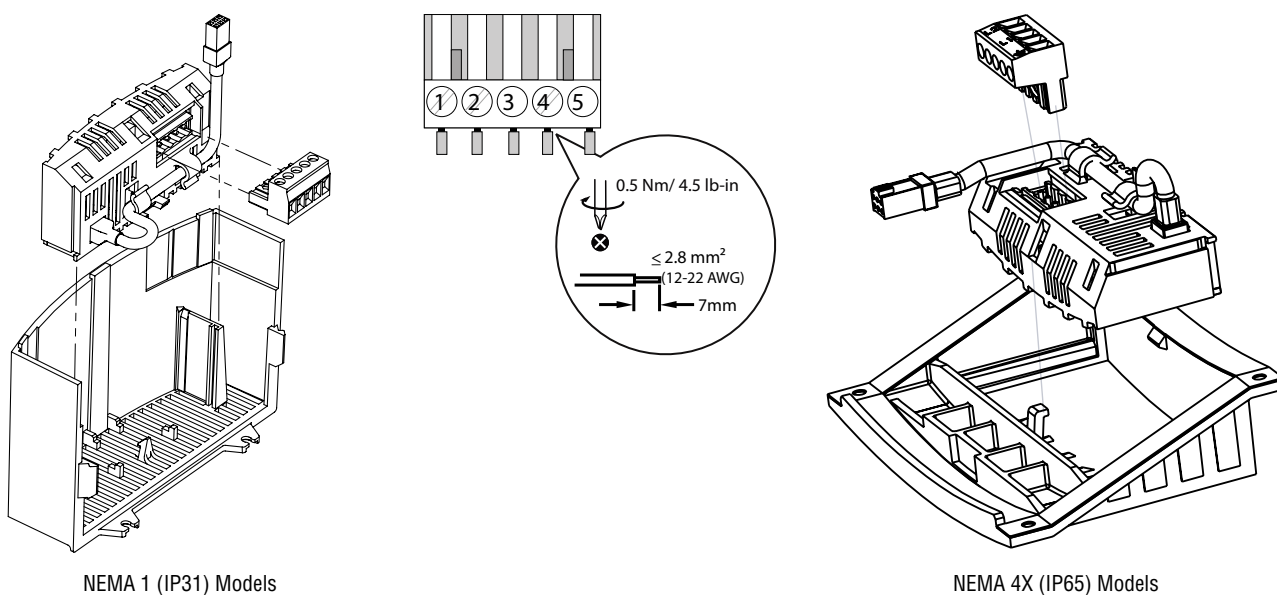

Figure 2: Installing the PROFIBUS-DP Communications Module
2. Insert the PROFIBUS option module in the terminal cover and securely “click” into position as illustrated in Figure 2.